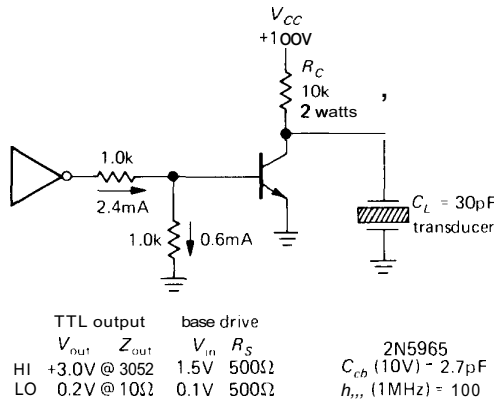

Figure 13.55
Let's begin with the circuit in Figure 13.55. It is a simple inverting stage intended for driving a piezoelectric crystal with 100 volt pulses, generated originally with TTL logic. The TTL output, and therefore the base driving signal, is roughly as indicated. In these calculations we will ignore r'_b , which is small compared with the source impedance.
(2) What is the impedance looking into a length of coaxial cable that is (a) open-circuited at the far end, and a quarter wave long, electrically, at the frequency of interest, (b) short-circuited at the far end, and a quarter wave long, electrically, at the frequency of interest, (c) same as (a), but a half wave long, (d) same as (b), but a half wave long? The result in (d) is the basis of the so-called choke joint used in waveguides.
(3) Work out in detail the rise time and fall time of the high-voltage switching circuit in Figure 13.55, as summarized in Section 13.25. Use $V_{BE} = 0.7\text{V}$.